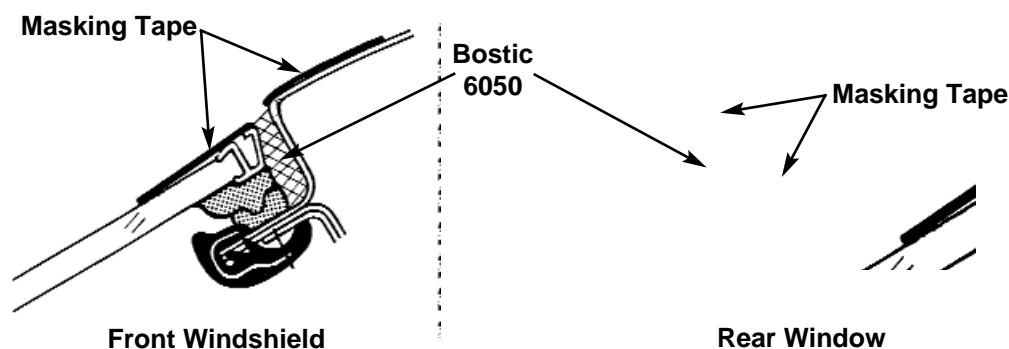

Figure 1
- 1.5 Place masking tape around the entire window and body opening, (see Figure 1) ensuring the gap between the windshield and body remains open. The tape must cover the opening (channel) for the rubber trim on the window and the body must be covered where the rubber trim makes contact.